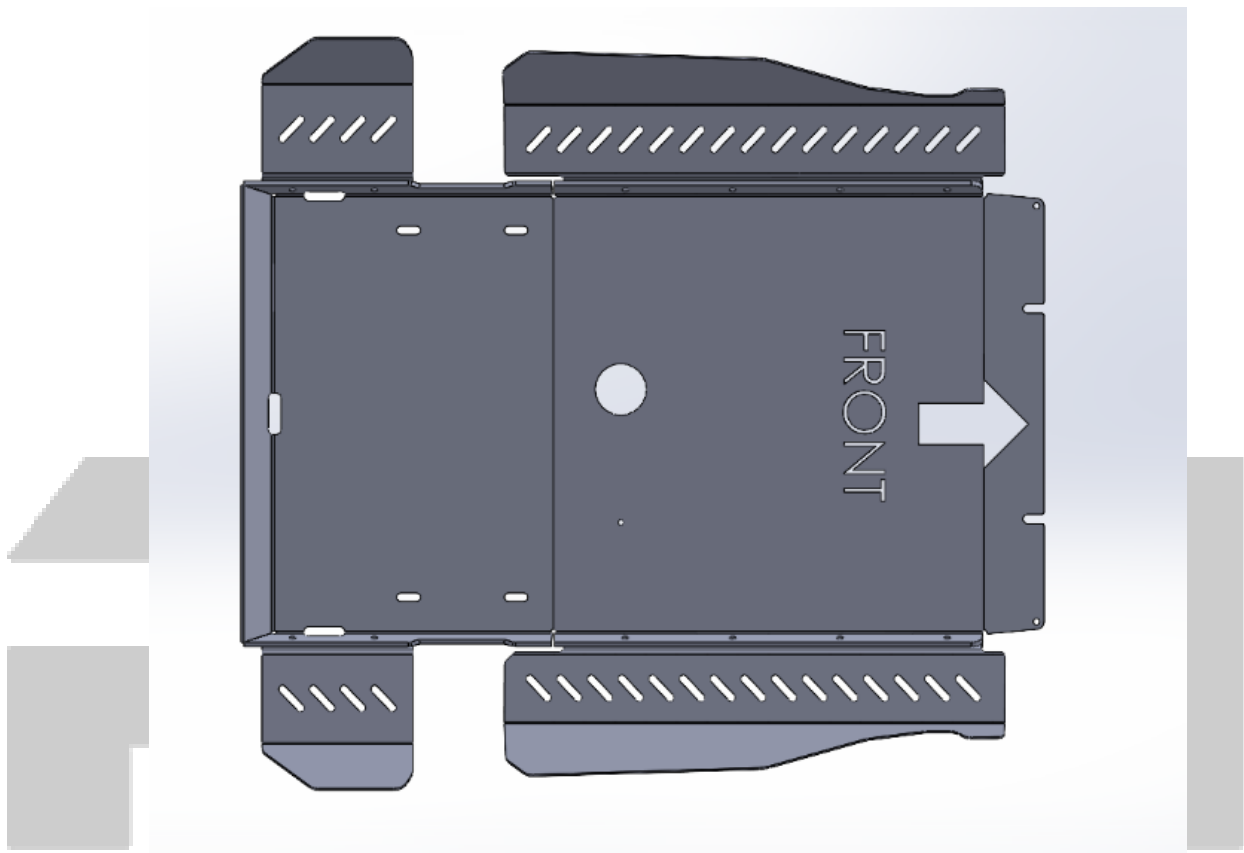

FIGURE 1
- 3) With the transmission skid plate removed from the vehicle, align the Front Driver Side CAT Guard(C1) with the outside of the flange present on the front driver side of the transmission skid plate and clamp it in place. There is a notch on each of the CAT Guards designed to accommodate the alignment lugs for the front suspension. That notch will need to face towards the front of the skid plate. (Figure 1)
- 4) Please adjust the alignment of the CAT Guard based on the photos below in Figure1 and Figure 2.